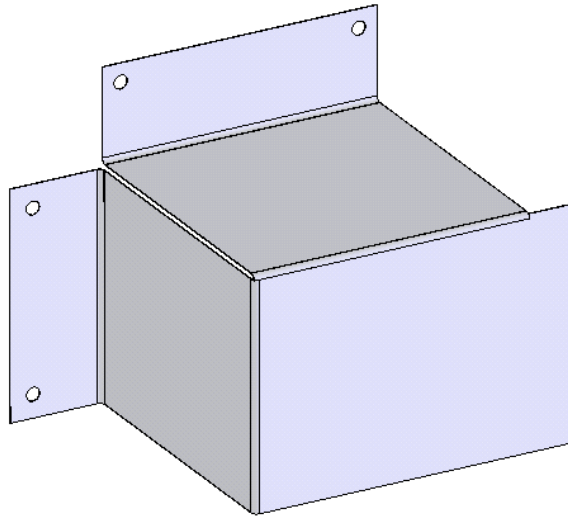

Figure 16-147 Model after creating edge flanges and holes on the left of the model
4. Similarly, create the edge flanges on the left of the sheet metal component. The model after creating the edge flanges and holes is displayed in Figure 16-147.